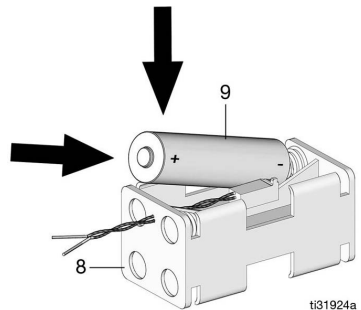

FIG. 11
3. Remove all four AA batteries from the battery holder (8). Discard batteries in an approved battery disposal container.
4. Install four, AA, alkaline batteries (9) in the battery holder (8), as shown in FIG. 11. Make sure batteries lie flat in holder.